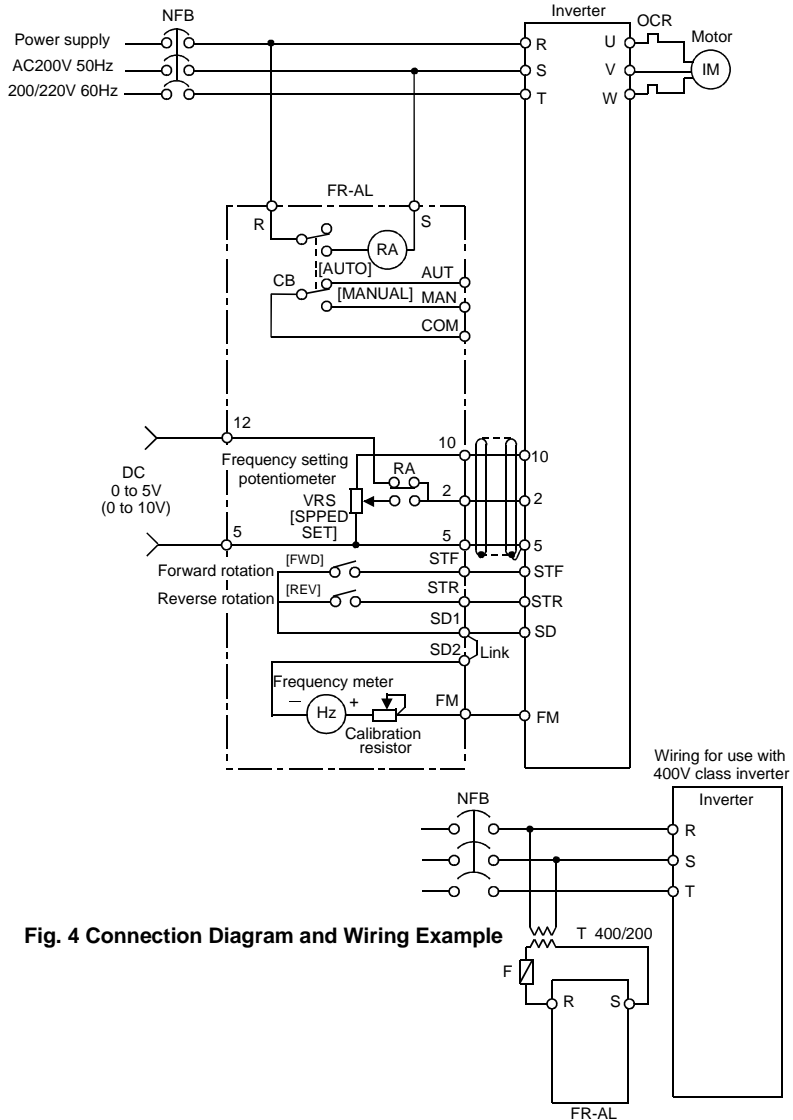

Fig. 4 Connection Diagram and Wiring Example
- (1) The wiring distance between controller and inverter should be 50m maximum and should be made as short as possible.
- (2) Use twisted or shielded cables for wiring the frequency setting potentiometer (terminals 10, 2, 5), and connect the shields to the common (terminal 5), not to the earth. (Refer to Fig. 4.)